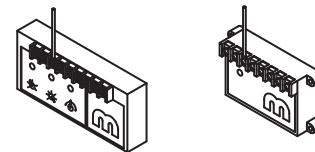

Figure 1
- b.1. For EDL, EDR, EDSM, and EDSM/TP control systems, remove the wire from terminal #3 on the amplifier (see Figure 1).